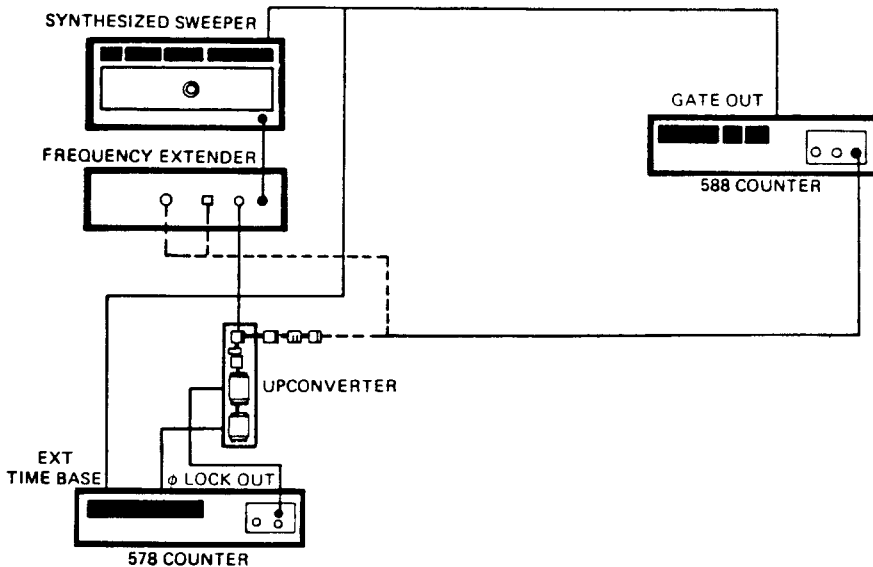

Figure 4-5. Band 3 Minimum and Maximum Frequency Setup
1. Connect equipment as shown in Figure 4-5.